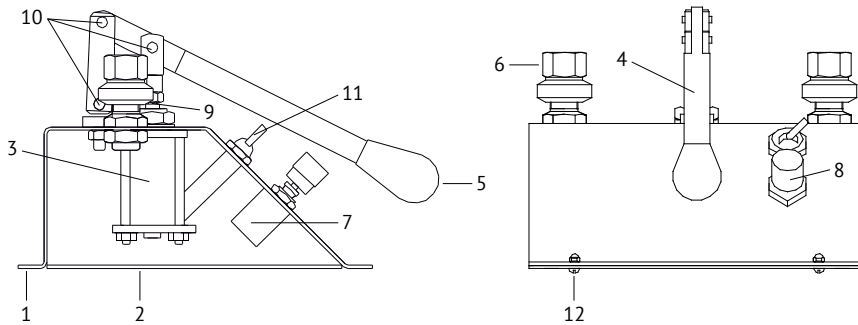

Fig. 1 Comparison Calibrating Pneumatic Device:
4.1 The device exterior is shown in Fig. 1.
8.2 Daily maintenance includes visual inspection and cleaning from dust and dirt with dry clean cloth. Check the presence of grease on the surface of the stem 9 (Fig. 1) and in the swivel joints 10. In case of no or insufficient amount of grease on these elements, lubricate the swivel joints 10 with grease LITOL-24 GOST 21150-87, and apply silicone grease (not aerosol) to the surface of the stems 9.
8.3.2 remove the screw 12 (Fig. 1) and dismantle the bottom cover 2;